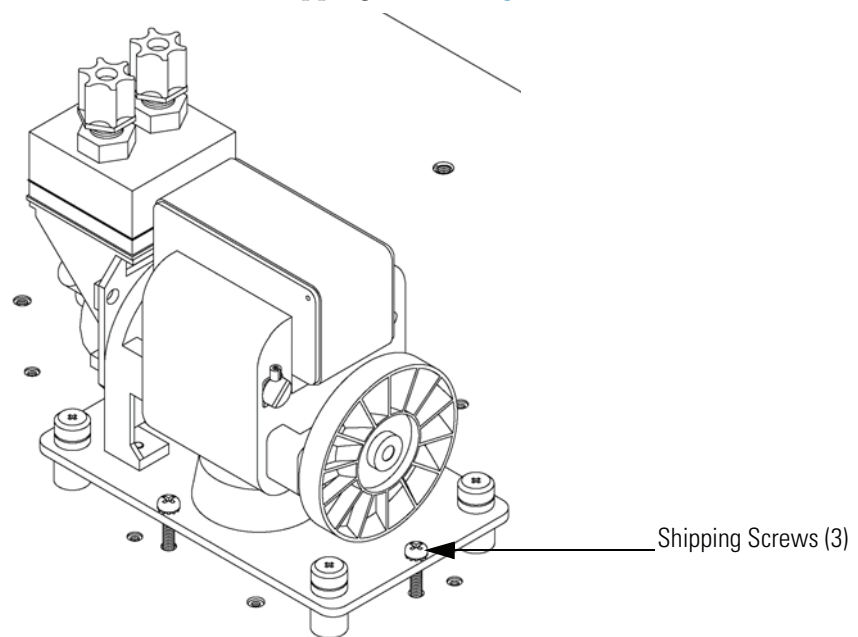

Figure 2-2. Remove the Shipping Screws
4. Remove the three shipping screws (Figure 2-2).